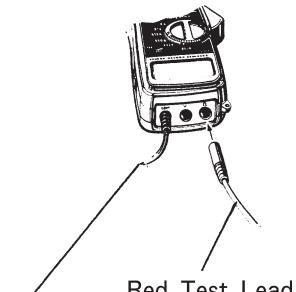

Fig.8
(3) Insert the red plug of the test leads into the Ω Terminal and the black plug into the COMMON Terminal. (Fig.8)